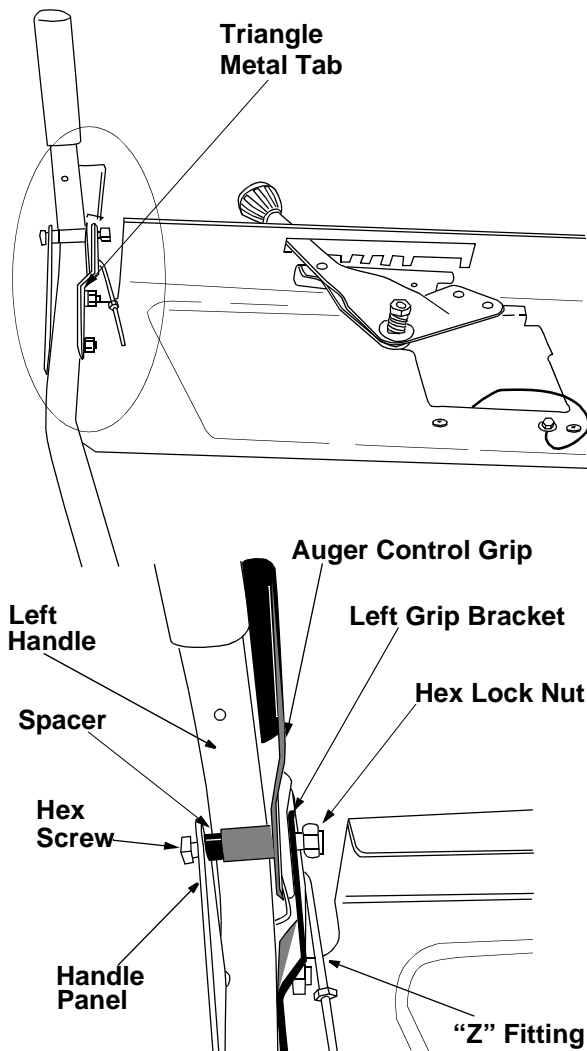

Figure 6
- Place the auger control grip on top of the left handle. The triangular metal tab must be between the handle and the grip bracket. See Figure 6.
- Secure with hex bolt, spacer and lock nut. See Figure 6. (Do not overtighten this bolt as it will prevent the grips from automatically returning to their upright position.)